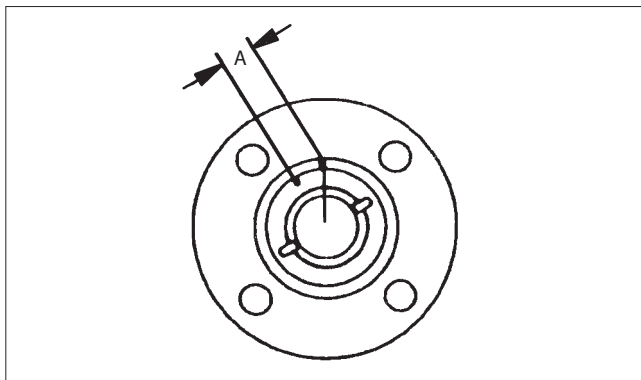

Figure 2.
15. Gently lower the ball (5) into the valve until the inner stem fully engages the slot in the ball.
16. Insert the second seat (6) so that the sealing surface of the seat is towards the ball.
17. Insert the body seal (12) and gently press it into the groove in the body.
18. Using a thread lubricant compatible with the media, screw the insert (2) into the body and tighten with the required torque in (Table 1). (Be sure that slot in ball is fully visible.) If a torque wrench is not available, tighten the insert the same number of turns as in Step 3 until the marks line up according to the dimension 'A' shown in (Table 1) and illustrated in (Figure 2).